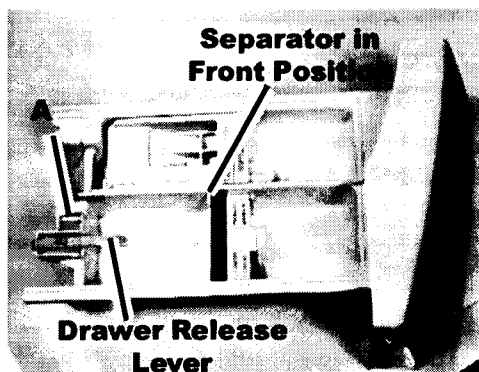

Fig. 2-4
The separator between the Prewash and Main Wash Detergent Compartments can be moved to accommodate either liquid or powdered detergents. (Fig. 2-4)
The drawer release lever (shown here is the normal position) can be installed in alternate position (A) to accommodate stacking a matching dryer on top of the washer. (Fig. 2-4)